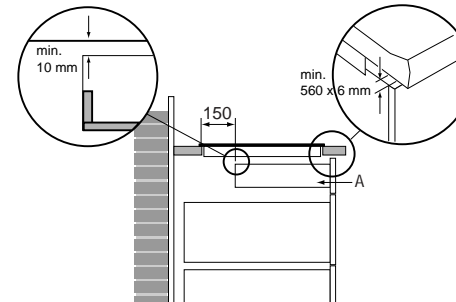

Fig. 9: Drawer under hob
- Where there is a drawer, a gap of at least 560 x 6 mm should be made at the front (see fig. 9). **Attention!** A drawer may not close off the ventilation openings on the underside of the appliance.
- The distance between drawer A and the hob should be at least 10 mm. No extra modifications for ventilation need be made where there is a fixed panel (see fig. 9).